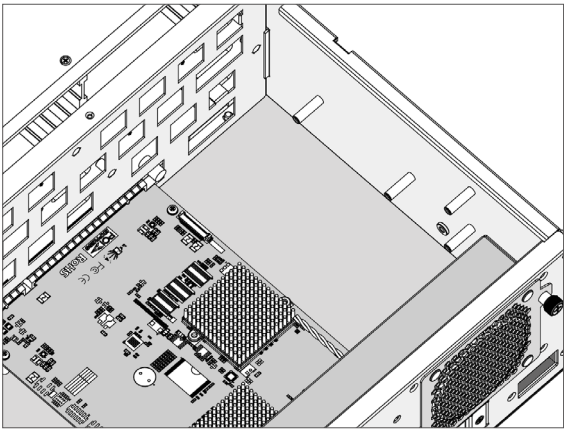

Figure B-2, Removing the Cover
1. Loosen the screws and remove the cover from the ARC-8050T3 SAN enclosure, as shown in Figure B-2.